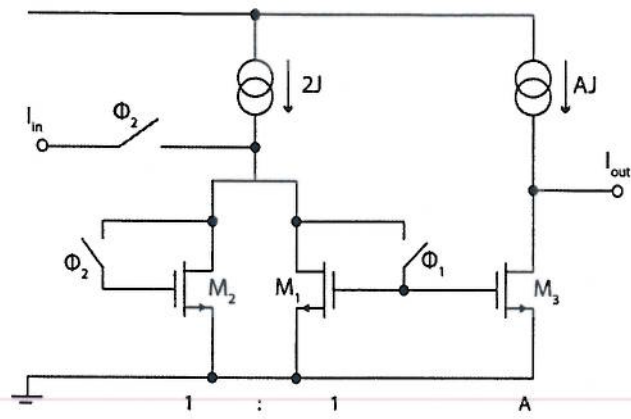

Figure 5.3
c) Figure 5.3 shows a schematic of switched current integrator.